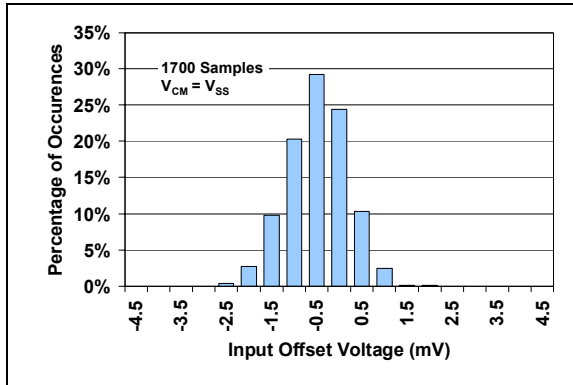

**FIGURE 1-1:** AC and DC Test Circuit for Most Specifications.
**Electrical Characteristics:** Unless otherwise indicated,  $V_{DD} = +1.4V$  to  $+6.0V$ ,  $V_{SS} = GND$ ,  $T_A = +25^\circ C$ ,  $V_{CM} = V_{DD}/2$ ,  $V_{OUT} \approx V_{DD}/2$ ,  $V_L = V_{DD}/2$  and  $R_L = 1\text{ M}\Omega$  to  $V_L$ . (Refer to Figure 1-1).
| Electrical Characteristics: Unless otherwise indicated, $T_A = +25^\circ\text{C}$ , $V_{DD} = +1.4\text{V}$ to $+6.0\text{V}$ , $V_{SS} = \text{GND}$ , $V_{CM} = V_{DD}/2$ , $V_{OUT} \approx V_{DD}/2$ , $V_L = V_{DD}/2$ , $R_L = 1\text{ M}\Omega$ to $V_L$ and $C_L = 60\text{ pF}$ . (Refer to <a href="#">Figure 1-1</a> ). |          |     |     |     |                              |                                     |
The circuit used for most DC and AC tests is shown in Figure 1-1. This circuit can independently set  $V_{CM}$  and  $V_{OUT}$  (see Equation 1-1). Note that  $V_{CM}$  is not the circuit's Common Mode voltage ( $(V_P + V_M)/2$ ), and that  $V_{OST}$  includes  $V_{OS}$  plus the effects (on the input offset error,  $V_{OST}$ ) of the temperature, CMRR, PSRR and  $A_{OL}$ .